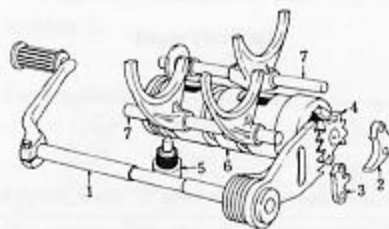

Fig. 5-2 Gear shifting mechanism
2. As the gear shifting mechanism is shown in Fig. 5-2, Gear shifting pawl and its holder can be actuated by moving the gear shift lever up and down. This turns gear shifting cam, then the shifting fork engaged with it slides laterally. A special device is built-in in this mechanism to ensure the correct gear shifting. When gears are shifted too rapidly, the shifting cam drum tends to rotate beyond the specified limit. A positive stop shifting device is provided for preventing the cam drum from turning too far for this purpose.